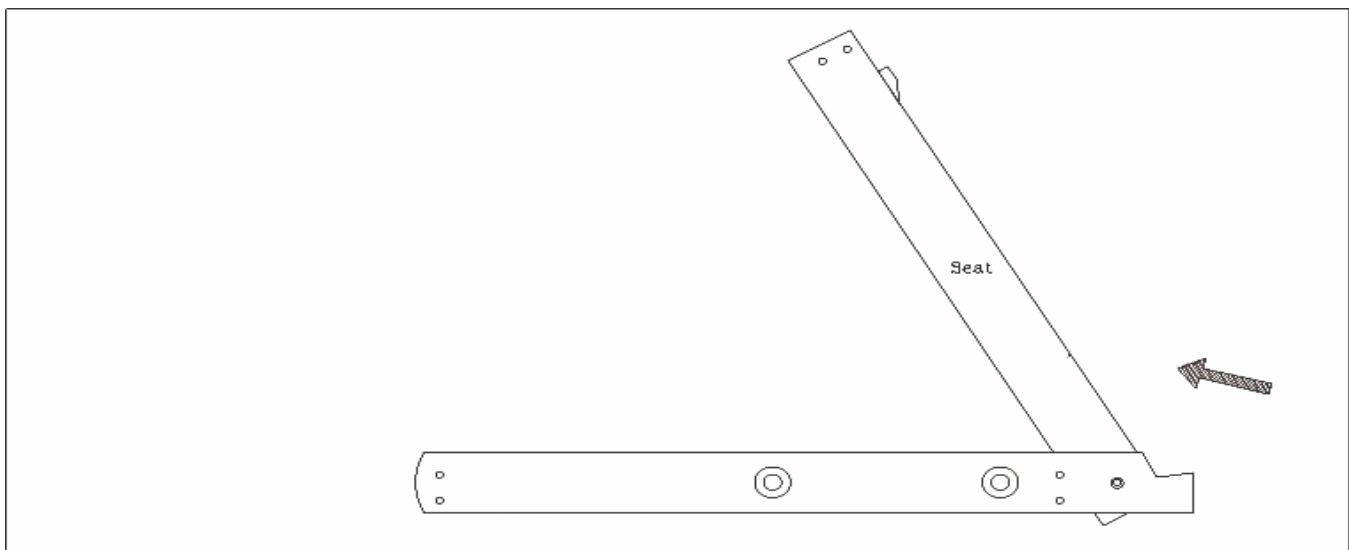

Figure 6
- 8) Turn backrest/seat assembly over so slats are facing upward. With backrest still lying flat on the floor, pick end of seat up until it rests on backrest (Figure 6).